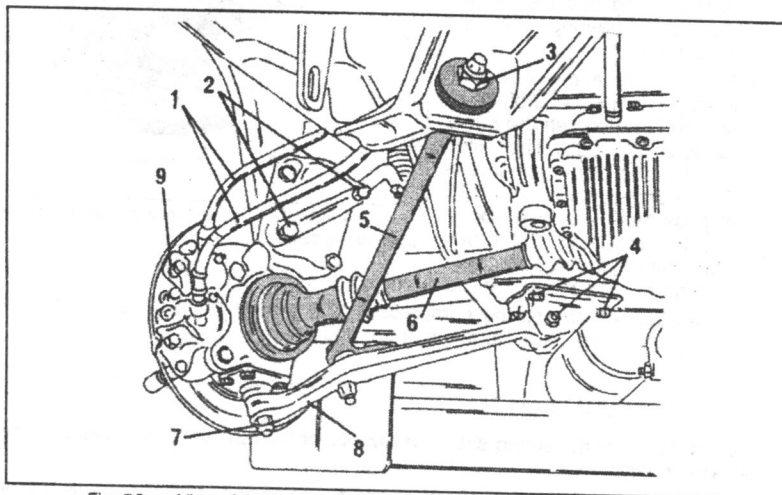

Fig. 5.8. — View of the front suspension on one side with the wheel removed.
The front suspension will now look as shown in Fig. 5.8. The remaining operations are carried out by referring to this illustration.
- Insert the reaction strut into the chassis bracket (make sure the parts on the strut are fitted in correct order), fit the washer and screw on the nut. Tighten the nut (3) in Fig. 5.8 to a torque of 10.0 kgm (72 ft.lb.).
The reaction strut can be seen in Fig. 5.8 in fitted position. A reaction strut must, for example, be removed if the castor requires adjustment, as the adjusting shims at the rear of the strut may have to be replaced.